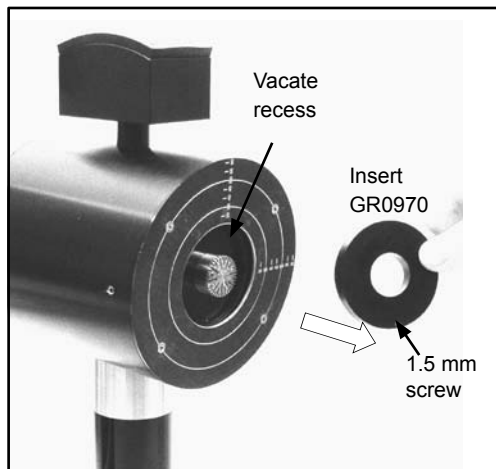

Fig. 4.12
2. Remove the Insert GR0970 surrounding the microphone (Fig. 4.12).